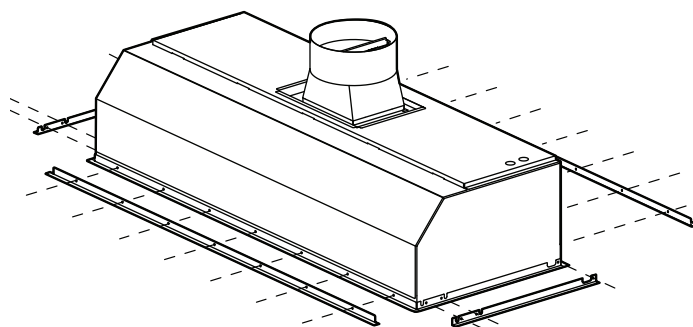

Figure 7: Trim Installation
For optimal performance, the hood should be mounted flush against the back wall. In such installations, the rear trim piece may not be necessary (see *Figure 7*).
- a) Hold trim flush to the bottom of the housing. Secure the trim to the hood with (20) x 3/8" (9.5 mm) screws, as indicated in Figure 7.